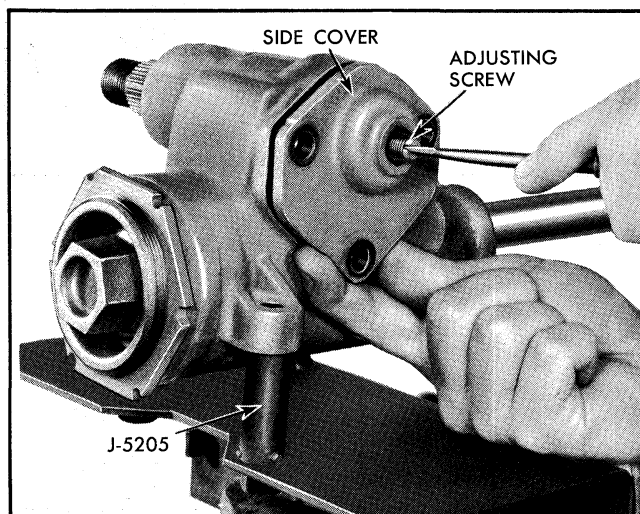

Fig. 9-19 Removing Side Cover
3. Remove side cover and gasket by turning adjusting screw clockwise through cover (Fig. 9-19).